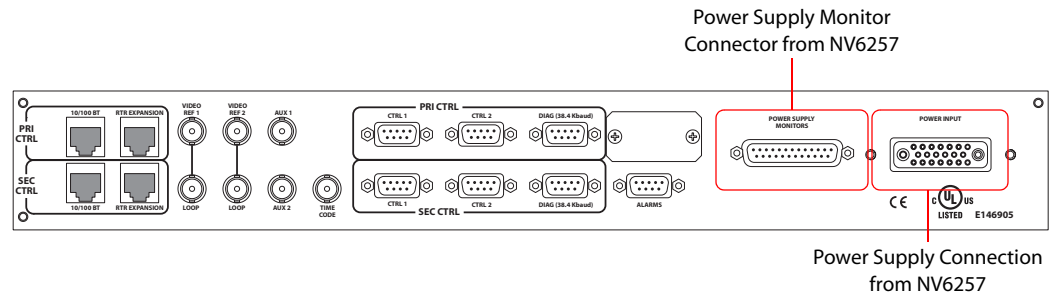

Figure 3-6. Power Supply Monitor Connection and Power Supply Connection on Router (Rear View)
- 4 Facing the rear of the **router**, connect the other end of the adapter to ‘Power Input’, as shown in Figure 3-6.
- 6 Facing the rear of the **router**, connect the other end of the monitor cable to ‘Power Supply Monitor’, as shown in Figure 3-6.